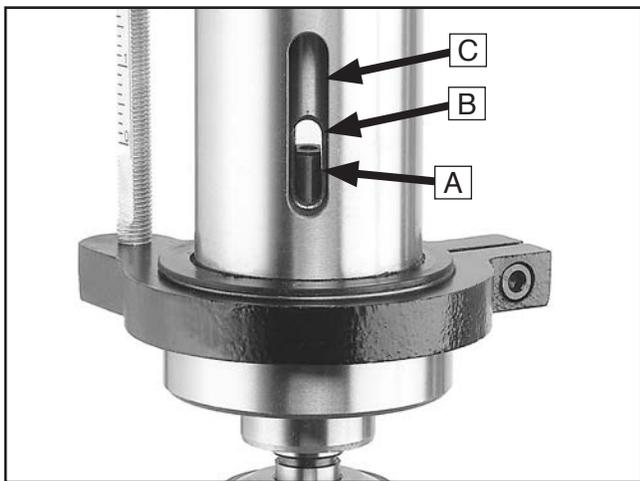

Figure 20. Example of arbor tang lined up with spindle socket.
6. Slide arbor (see **A** in **Figure 20**) into spindle socket (see **B** in **Figure 20**) while slowly rotating chuck to line up tang on arbor with slot in socket.
4. Rotate spindle until inner drift key slot (see **B** in **Figure 20**) is aligned with outer slot (see **C** in **Figure 20**). You will see through spindle when slot is properly aligned.